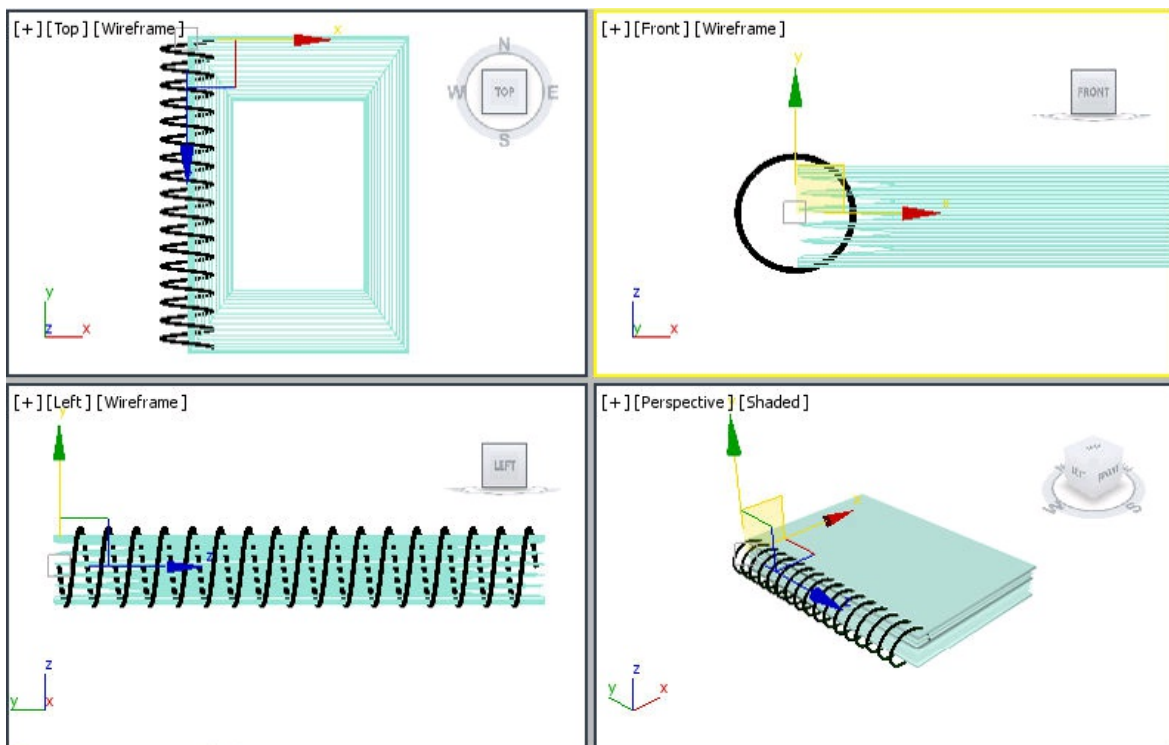

Figure 5-71 Alignment of spiral binding with book in the viewports
6. Choose the **Select and Move** tool and align *spiral binding* with *book* in the viewports, as shown in Figure 5-71.